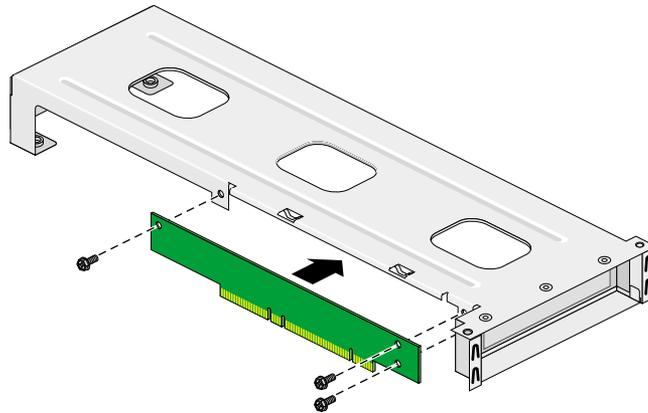

Figure 2-7 Installing the Riser Card on the Link Bar
1. Place the riser card on the link bar as shown in Figure 2-7.